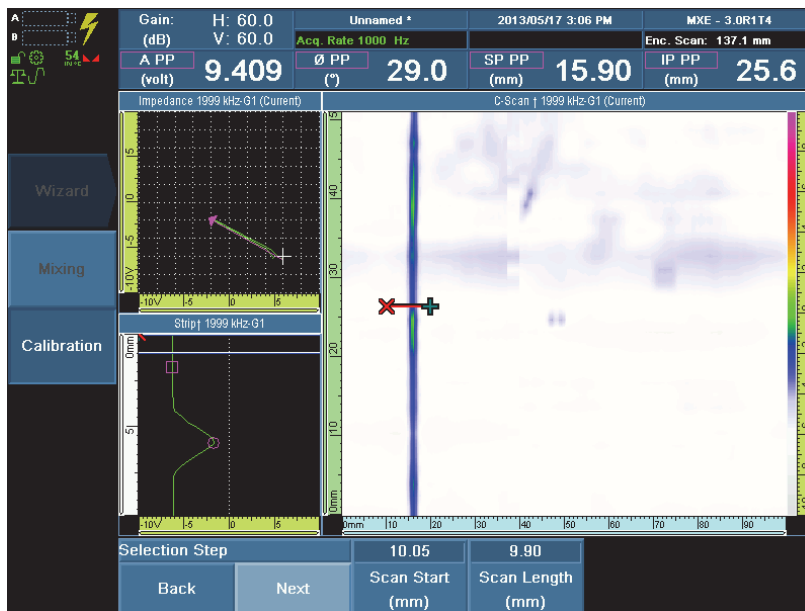

Figure 10-9 Positioning the selection cursor correctly with regard to the defect signal to be normalized
- a) Select **Scan Start**, adjust the starting position of the cursor before the normalization defect, leaving some space before the signal, and then press the Accept key to confirm (see Figure 10-9 on page 198).